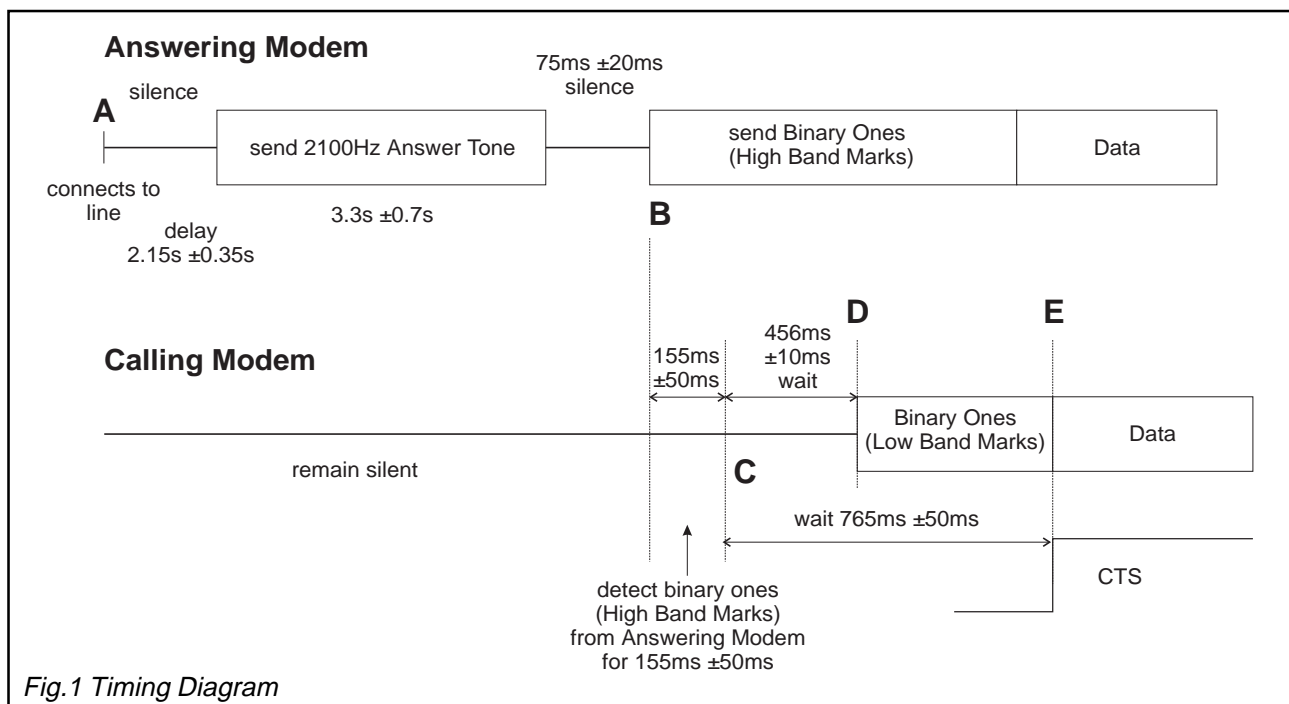

Fig.1 Timing Diagram
V.23 recommendations do not describe how a connection is established; a procedure is described below and illustrated in Figure 1; however you should not rely on other modems following this particular flow. Note also that 1200/1200 bps half-duplex connections are not covered by this application note.